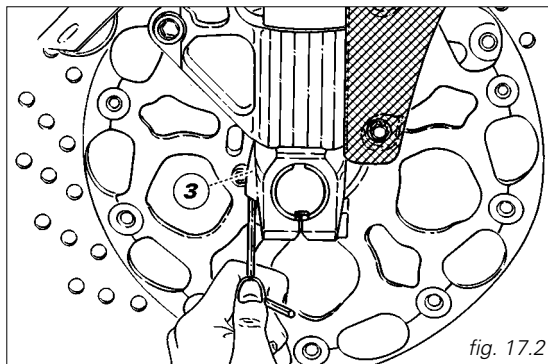

fig. 17.2
- 3) (fig. 17.2) to adjust compression damping.
E Put and secure the motorcycle in vertical position. Turn the adjuster (1) on fork leg top with a 3-mm Allen wrench to adjust rebound damping. To reach the adjuster (3), insert a 3-mm Allen wrench into the hole as shown in fig. 17.2. As you turn the adjusting screws (1 and 3), you will hear them click. Each click identifies a setting. Turn the screw all the way in to set the hardest damping (position 0). This will be your starting point. Now turn the screw anticlockwise and listen for the clicks that identify setting positions no. "1", "2" and so on.